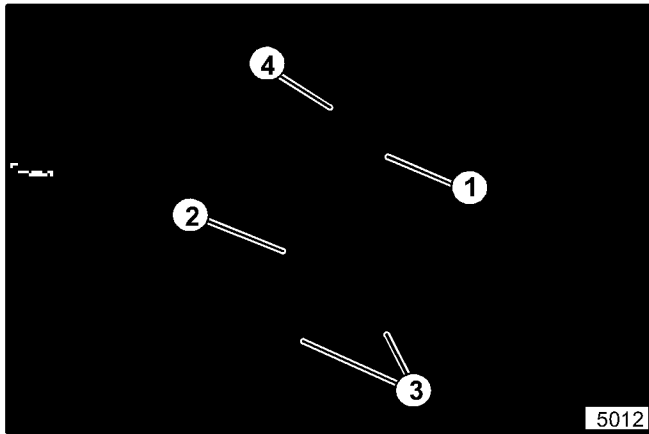

Figure 29. Drive Shaft Bearing Support
4. Loosen the set screw in the locking collar on the drive shaft (see figure 29). Insert a punch in the small hole in the collar and use hammer to tap the collar clockwise (opposite direction of engine rotation) until it's loose (approx. 1/4 turn). Remove the collar.